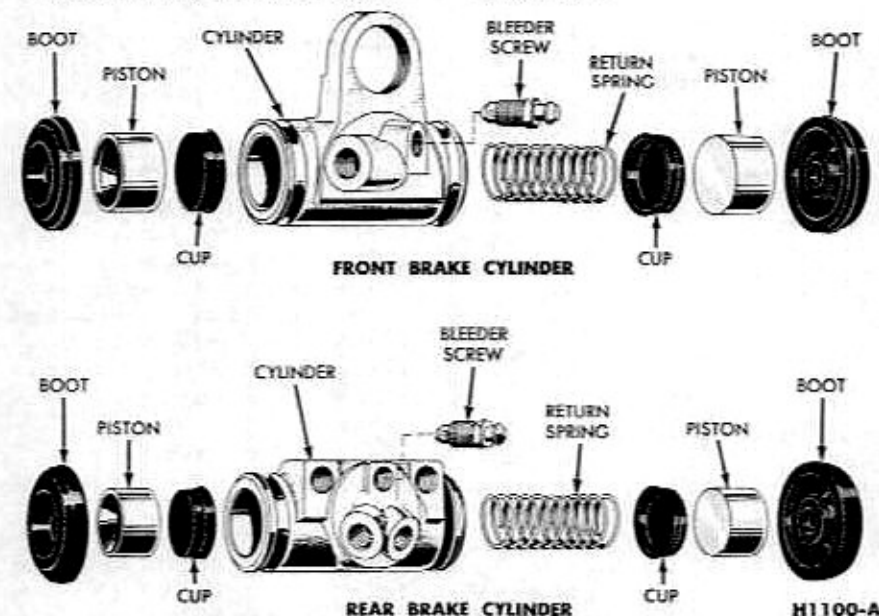

FIG. 13—Front and Rear Brake Cylinders
1. With the wheel cylinder removed, remove the rubber boots from the ends of the brake cylinder. Remove the pistons, cups, and piston return spring from the cylinder (Fig. 13).